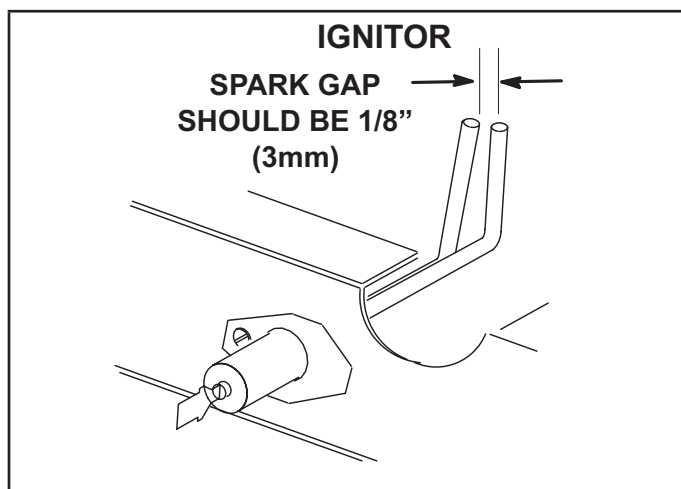

FIGURE 40
- 5 - Locate the ignitor under the right burner. Check ignitor spark gap with appropriately sized twist drills or feeler gauges. See FIGURE 40.